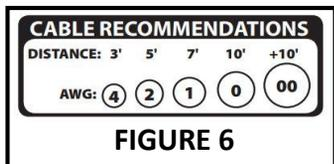
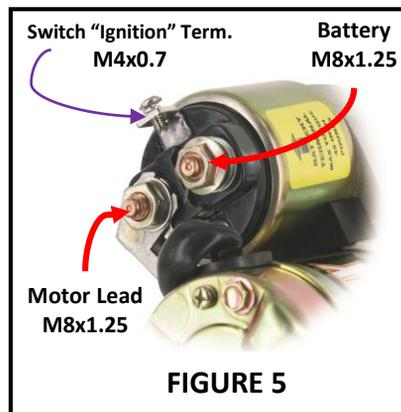

FIGURE 6
FIGURE 5
5) **WIRING CONNECTIONS:** Ensure power cable is sufficient size and in good condition (See Figure 6). Attach battery cable and starter ignition wire to corresponding post on solenoid (Figure 5). NOTE: These starters do not have a post for the “R Terminal” connection. If you are using an electronic ignition, this post is normally not needed. If you are using the factory type points ignition, a diode can be added to the starter to function this circuit (PM Part number #600)